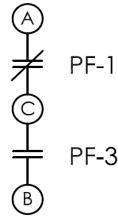

Figure 8 – Power Failure Contacts
A Power Failure relay is provided to disconnect the automatic control from the battery and, therefore, limit the drain on the battery. One (1) set of normally open and closed contacts from this relay is connected to terminals for connection to a remote Power Failure alarm; refer to Figure 8. The charger will automatically resume charging upon return of AC power.